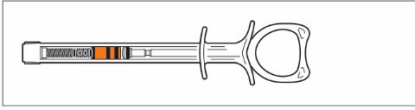

Figure 2 - Plunger all the way in
- b. Begin with the Inflation Syringe plunger **all the way in** (Figure 2).
- g. While still pointing the syringe tip **towards the ceiling**, push the plunger **all the way in** (Figure 2), to purge all air and fluid from the syringe.